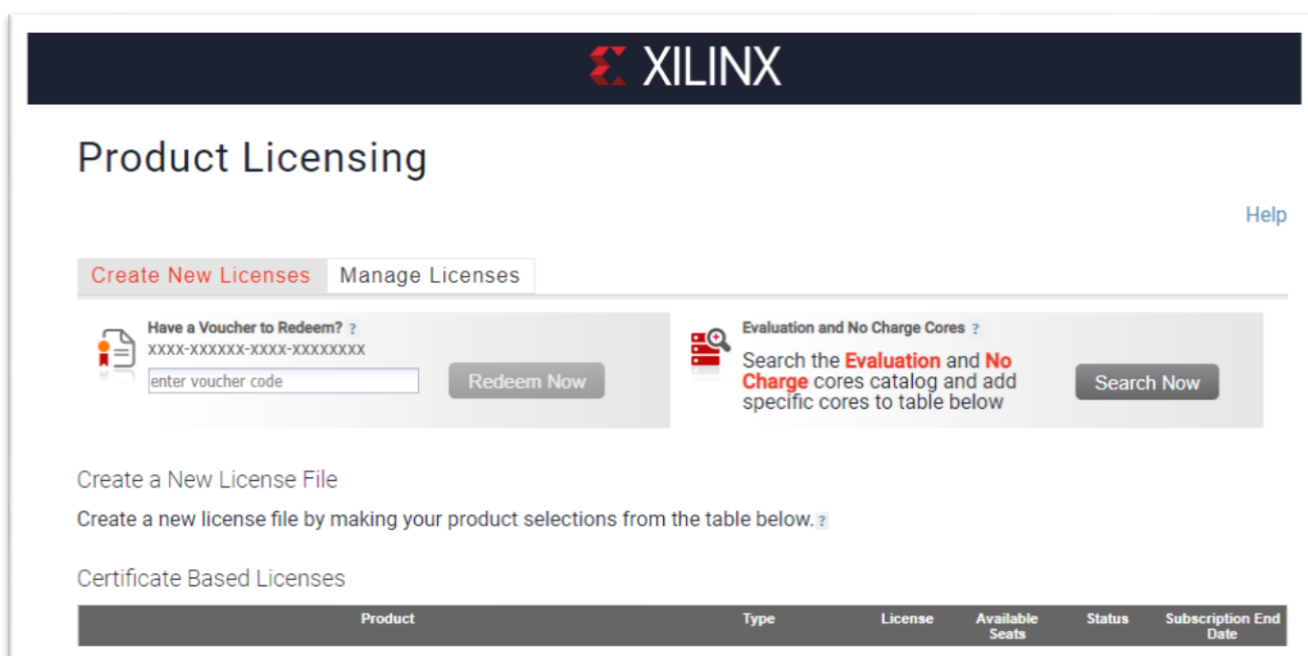

Figure 14: Xilinx License Page
2. After logging in you should see the page shown in Figure 14.